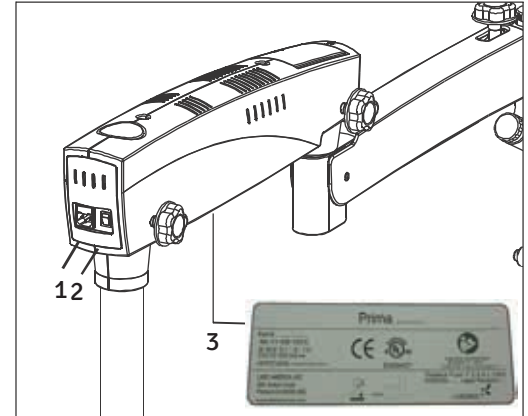

Fig. 47
1. Connect the power cable to the AC inlet socket (2) provided on the back of the swivel arm as shown in the fig.47.
**Note:** Power supply is designed with universal input 100V - 240V AC, 50/60HZ. To plug in follow instruction on electrical label provided at bottom of the arm as shown (3) here in Fig.47.
Arm near Label Shown as 3 in Fig.47.